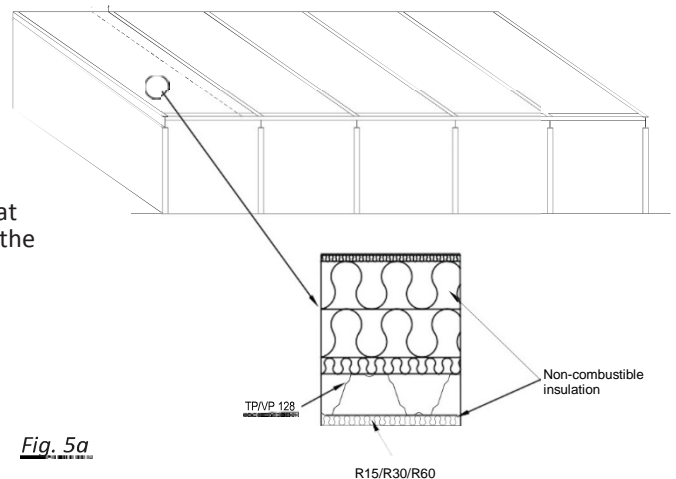

Fig. 5a
- Providing the steel plates and roof trusses in the end bays with fire protection see **Figure 5a**